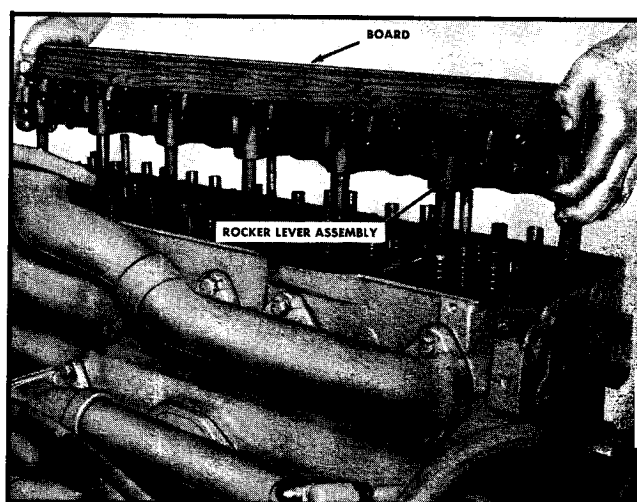

Fig. 12-43. Installing rocker lever assembly
2. Mount rocker lever assembly on cylinder head; use a bar arrangement, as shown in Fig. 12-43, to hold rocker levers in place.